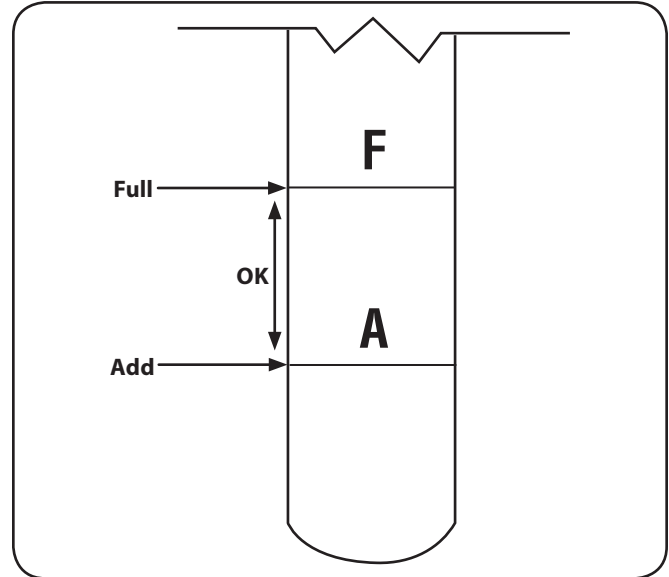

Figure 6-2
- Remove the dipstick and check the level. See Fig. 6-2.
- Remove the oil fill plug/dipstick from the oil fill port and SLOWLY pour oil into the oil fill port. Fill the transmission case until the oil level reaches the "FULL" mark on the dipstick. Refer to Fig. 6-2.